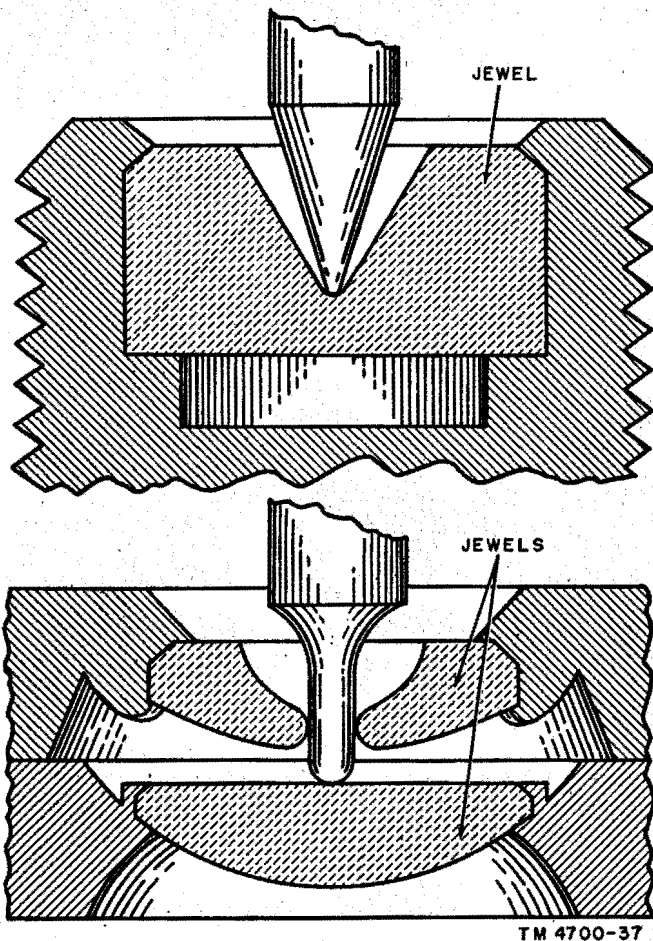

Figure 39. Two types of jewel.
e. Jewels (fig. 39). The V-shaped jewels used in meters are made of tough, highly polished, low-friction glass or sapphire mounted rigidly in jewel sleeves. Jewels must be given the same careful attention as pivots. To check for a cracked or broken jewel, remove any encrusted dirt with a needle and inspect the jewel with a